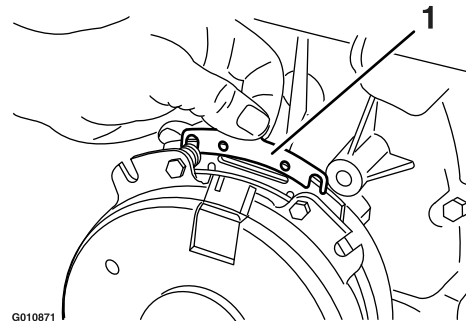

**Figure 71**
- A. Loosen both brake mounting bolts 1/2 to 1 full turn as shown in Figure 71.